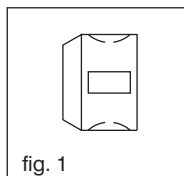

fig. 1
1. Unscrew the tension nut (fig. 1) from the collet chuck seat.